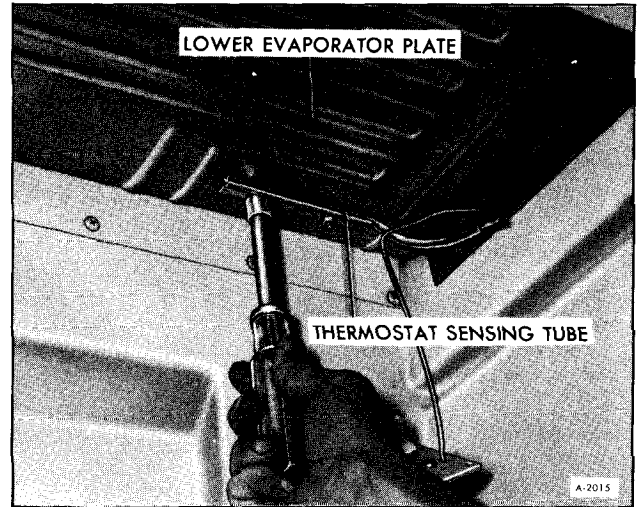

Figure 12—Removing Thermostat Sensing Tube
3. Remove thermostat sensing element from lower evaporator plate by removing two screws (figure 12).